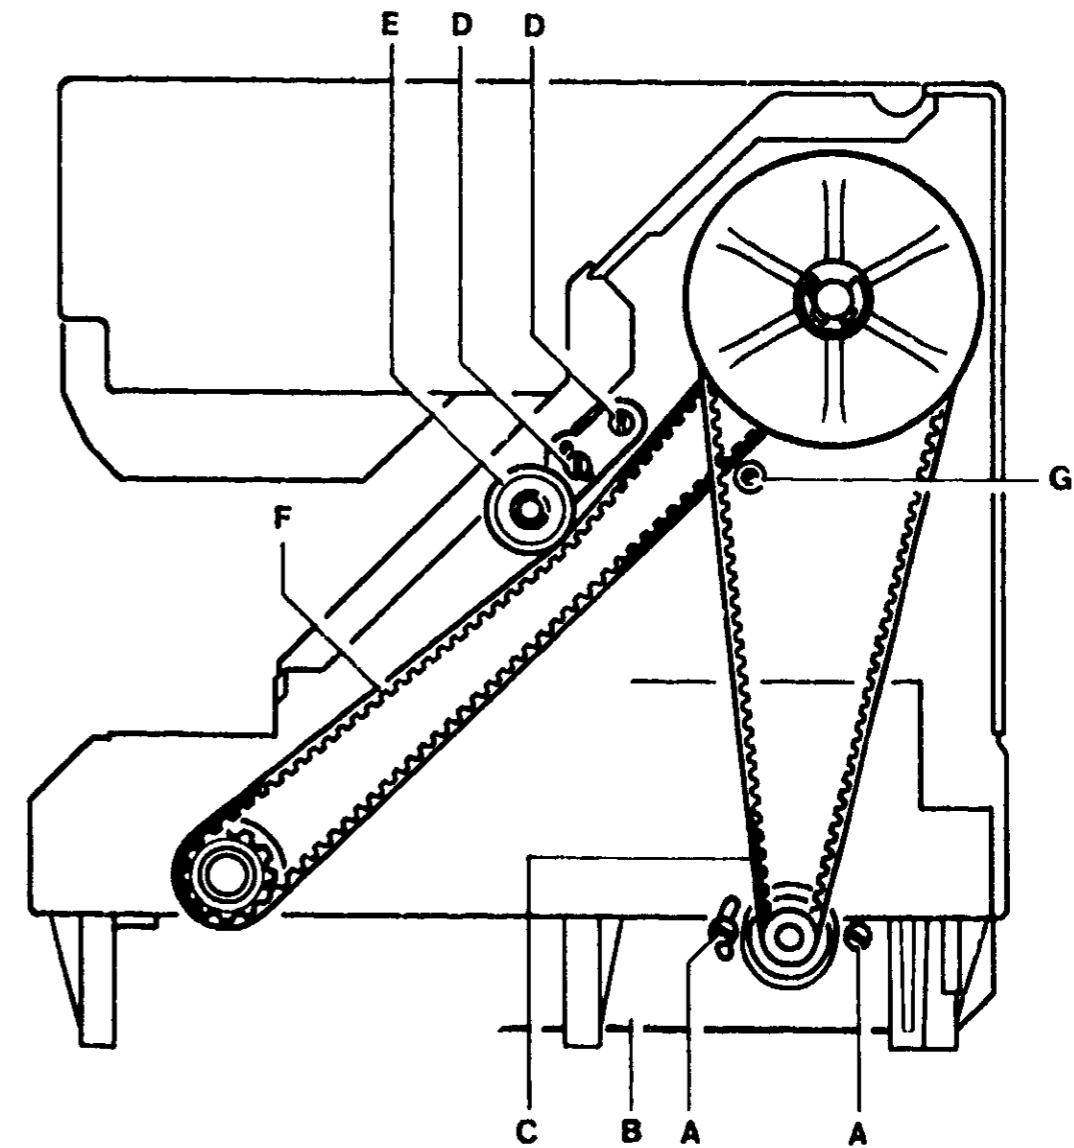

FIGURE 64
Loosen screws (A) and move motor and bracket (B) upward (Figure 64)
Place belt (C) over mainshaft toothed wheel (Figure 64). Move motor and bracket (B) upward and place belt around motor toothed wheel. Lower motor bracket and tighten screws (A) securely
Remove drive belt (C) as explained in preceding paragraph. Loosen screws (D) and move tension pulley (E) upward (Figure 64).